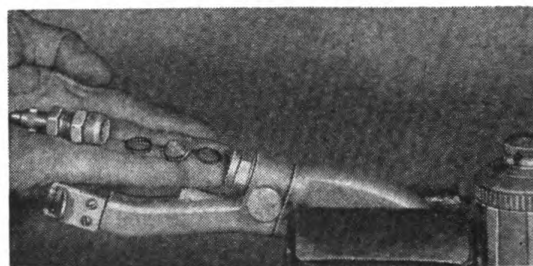

Figure 213
(3) Remove air line connection (See Figure 213), clean strainer, and reassemble.